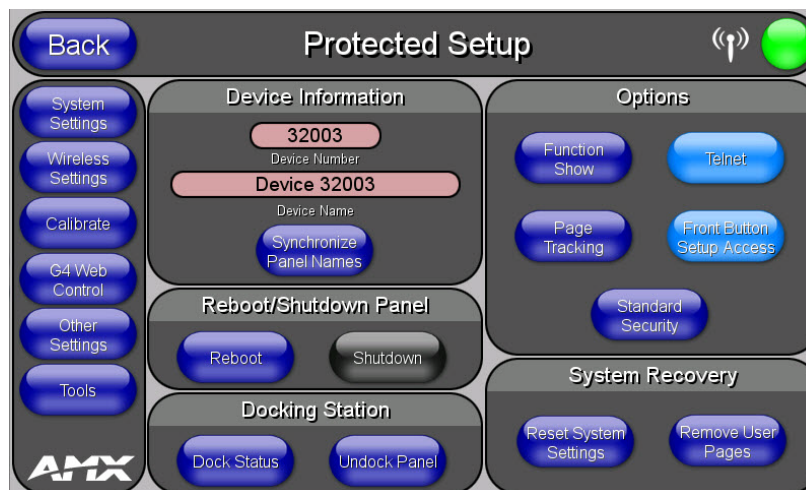

FIG. 13 Protected Setup page
2. Press the **Protected Setup** button. This opens a keypad for entry of the password to allow access to the *Protected Setup* page (FIG. 13). Enter the device's password and press **Done** to proceed.